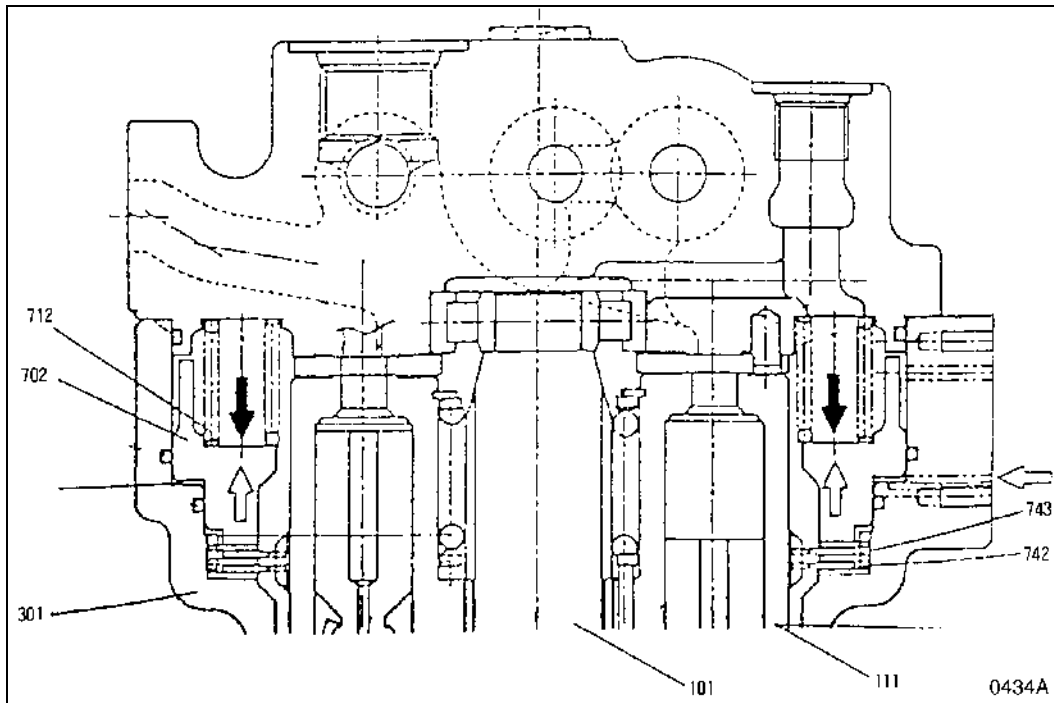

Figure 3
The swing brake is applied when the brake spring (Item 712, Figure 3) locks up the friction plate (742), split plate (743) and swing motor casing (301), preventing the motor drive shaft from turning. When hydraulic pressure is forced to the back side of the brake piston, the friction plate and swing motor casing are separated, releasing the brake.